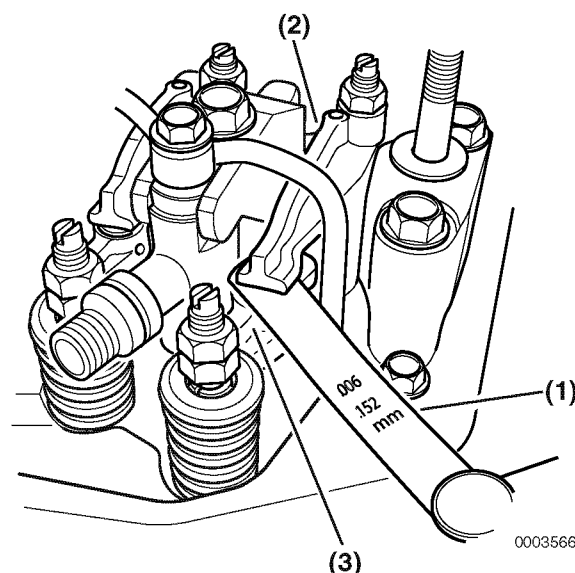

Figure 6-85
8. To adjust the actual valve clearance between the rocker arm and the valve bridge, insert a feeler gauge (**Figure 6-85, (1)**) of the correct thickness (See *Adjustment Specifications* on page 6-4) between the rocker arm (**Figure 6-85, (2)**) and valve bridge (**Figure 6-85, (3)**). Record the results and use this value as an indication of wear.